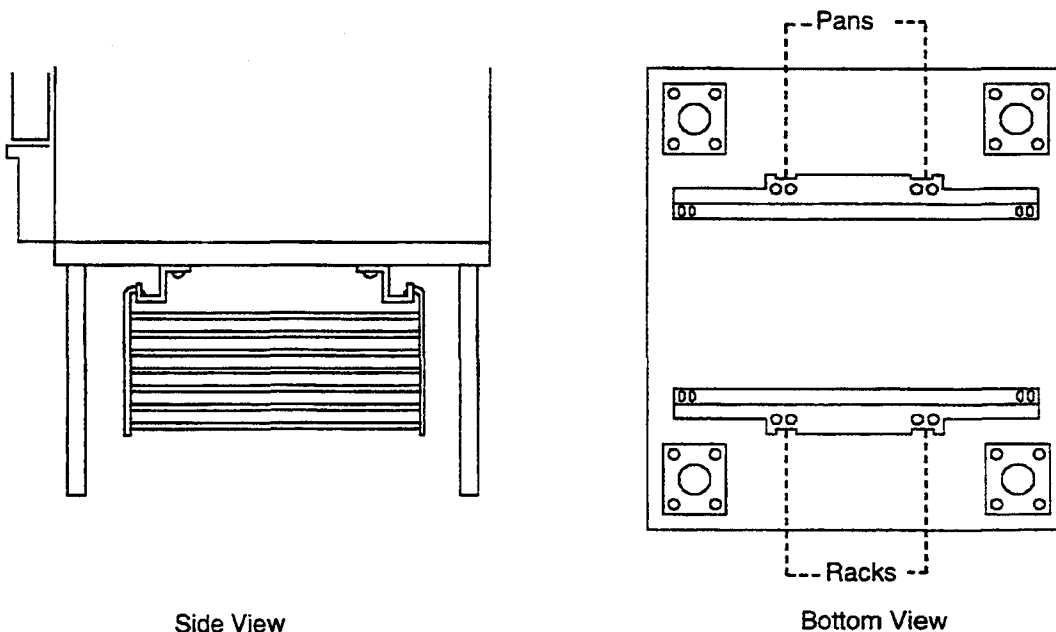

FIGURE 14
4. Hang rack guides from outside frame hanger holes for racks, or inside hanger holes for pans. Refer to figure 14.